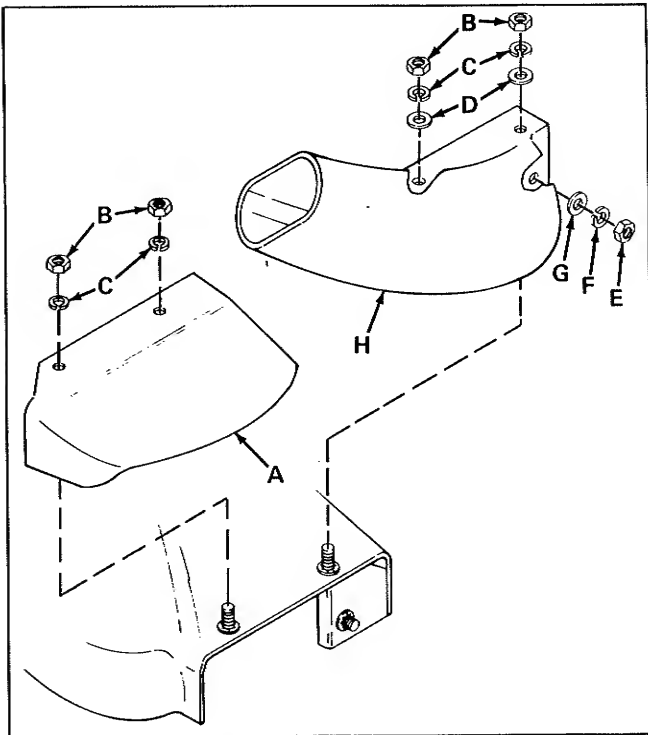

Figure 11. Install Grass Catcher Adaptor
10. Place the grass catcher adaptor (H, figure 11) over the three bolts at mower discharge opening. Install the large flat washers received with grass catcher and deflector hardware on the two top bolts. Install the flat washer, lockwasher and nut (G, F and E) received with grass catcher on the other bolt.